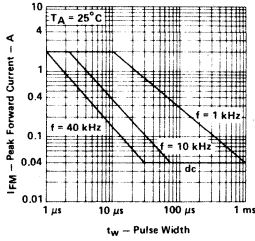

FIGURE 1
2. This value applies for $t_w \leq 10 \mu\text{s}$, $f \leq 1 \text{ kHz}$. See Figure 1.